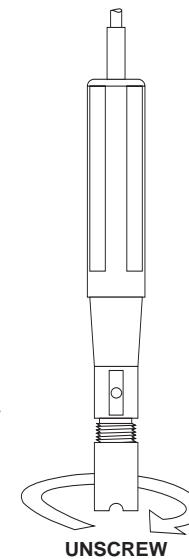

fig. 2
- Unscrew the membrane cap by turning it counterclockwise (see fig.2).